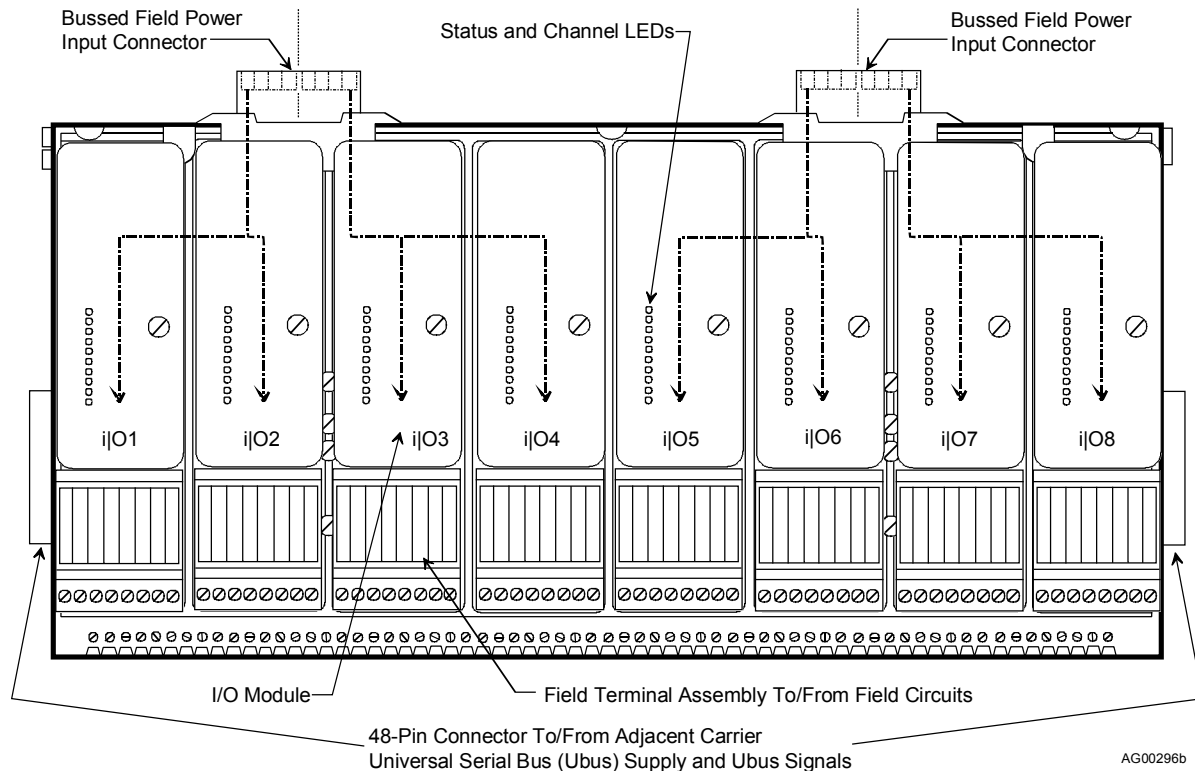

FIGURE 2 Procidia, Assembled Module Carrier
- i|o™ – A series of analog and discrete input/output modules that communicate with the control module over a universal serial bus (Ubus). Figure 2 shows i|o modules and i|o field termination assemblies mounted on a module carrier. i|o module physical locations are numbered as shown, however, during configuration, a Ubus address number is entered to define a module's location. Addresses are discussed in the Getting Started chapter.